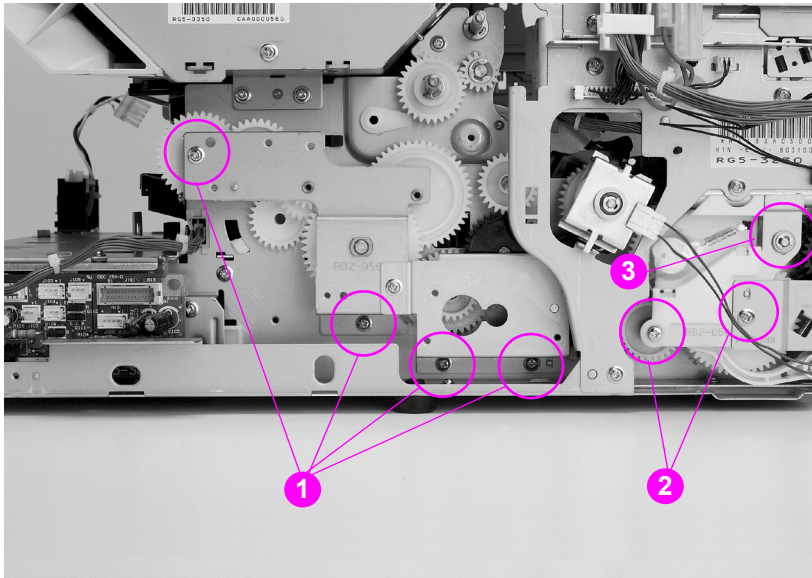

Figure 6-55 Left side gears removal and replacement (1 of 2)
- 10 Remove the four screws (callout 1, Figure 6-55 on page 194) and remove the sheet metal over the gears.
- 11 Remove the one or two screws (shown in callout 2, Figure 6-55 on page 194) and e-clip (shown in callout 3, Figure 6-55 on page 194) that hold the solenoid assembly in place and then remove the solenoid assembly.